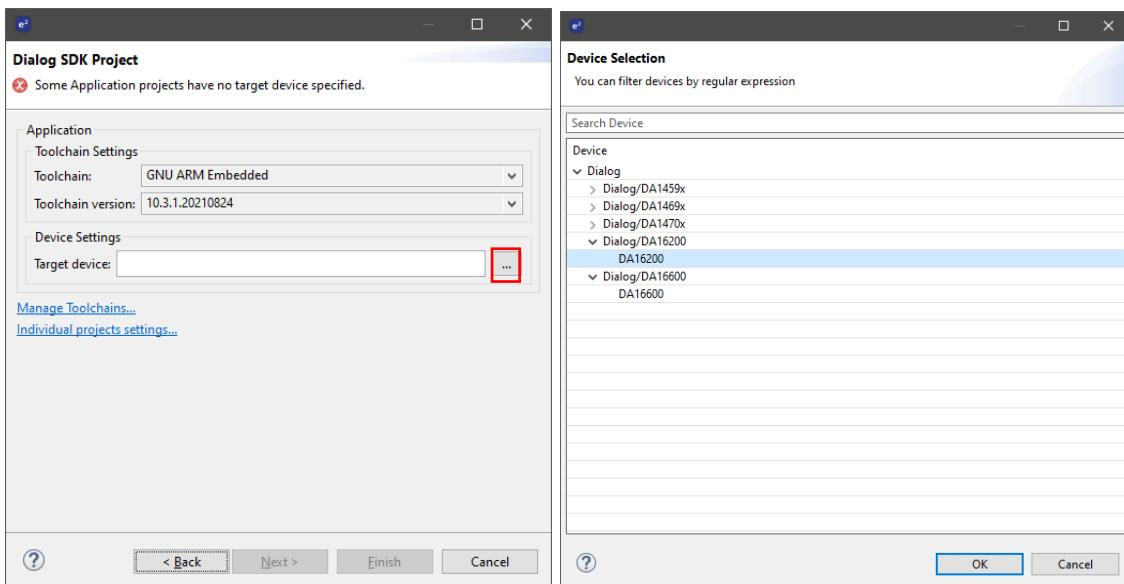

Figure 21. Dialog SDK project
4. The Dialog SDK Project window appears as shown in Figure 21. Select Target device da16200 or da16600 by choosing the button and then click **Finish**.